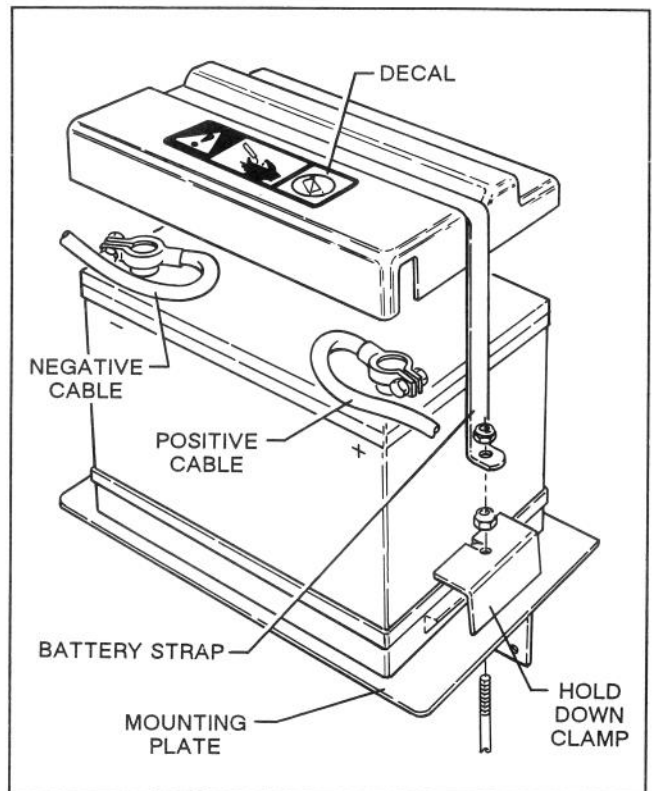

Figure 21
40. Set battery onto mounting plate of snowthrower. Battery posts to be positioned to the outside, not toward the fuel tank (Fig.21).
41. Secure black (negative) battery cable to negative (-) battery post. Route cable as shown in fig. 21, so battery cover fits over cable. Tighten cable clamp.
42. Secure red (positive) battery cable to positive (+) battery post as shown in Fig. 21. Tighten cable clamp.
43. Install cover on top of battery. Secure battery to mounting plate. Secure battery in place with capscrews, battery hold down clamps and nuts. Install decal on battery cover as shown (Fig.21).
44. Install battery strap onto battery cover and slide mounting ends of strap onto ends of capscrews (Fig.21). Secure parts in place with (2) nuts.